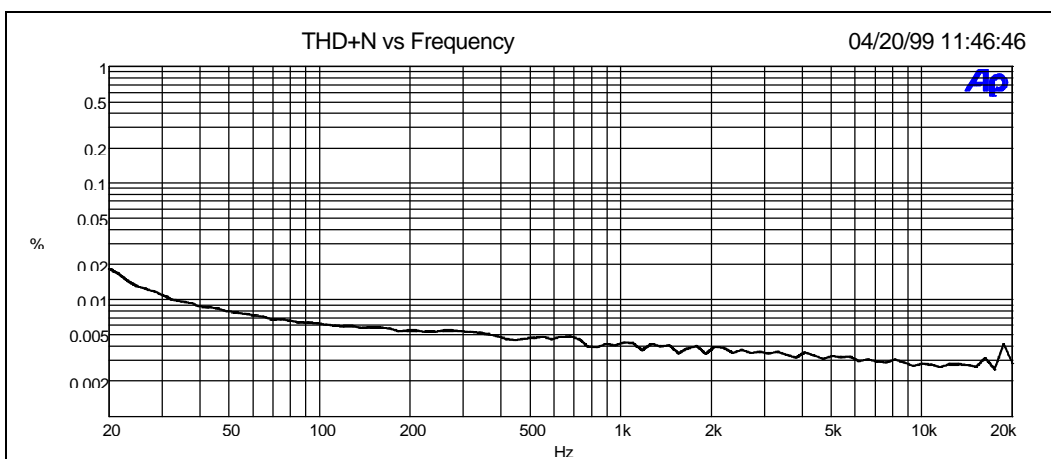

Figure 4 THD+N [%] as a function of the frequency [Hz] [4] , input level = +10 dBu with input transformer (NRS 90244) installed
8.1 THD+N [4] figure 4 70 Hz ... 20 kHz < 0.01 % @ +10 dBu
THD+N [4] figure 4 20 Hz ... 20 kHz < 0.05 % @ +10 dBu